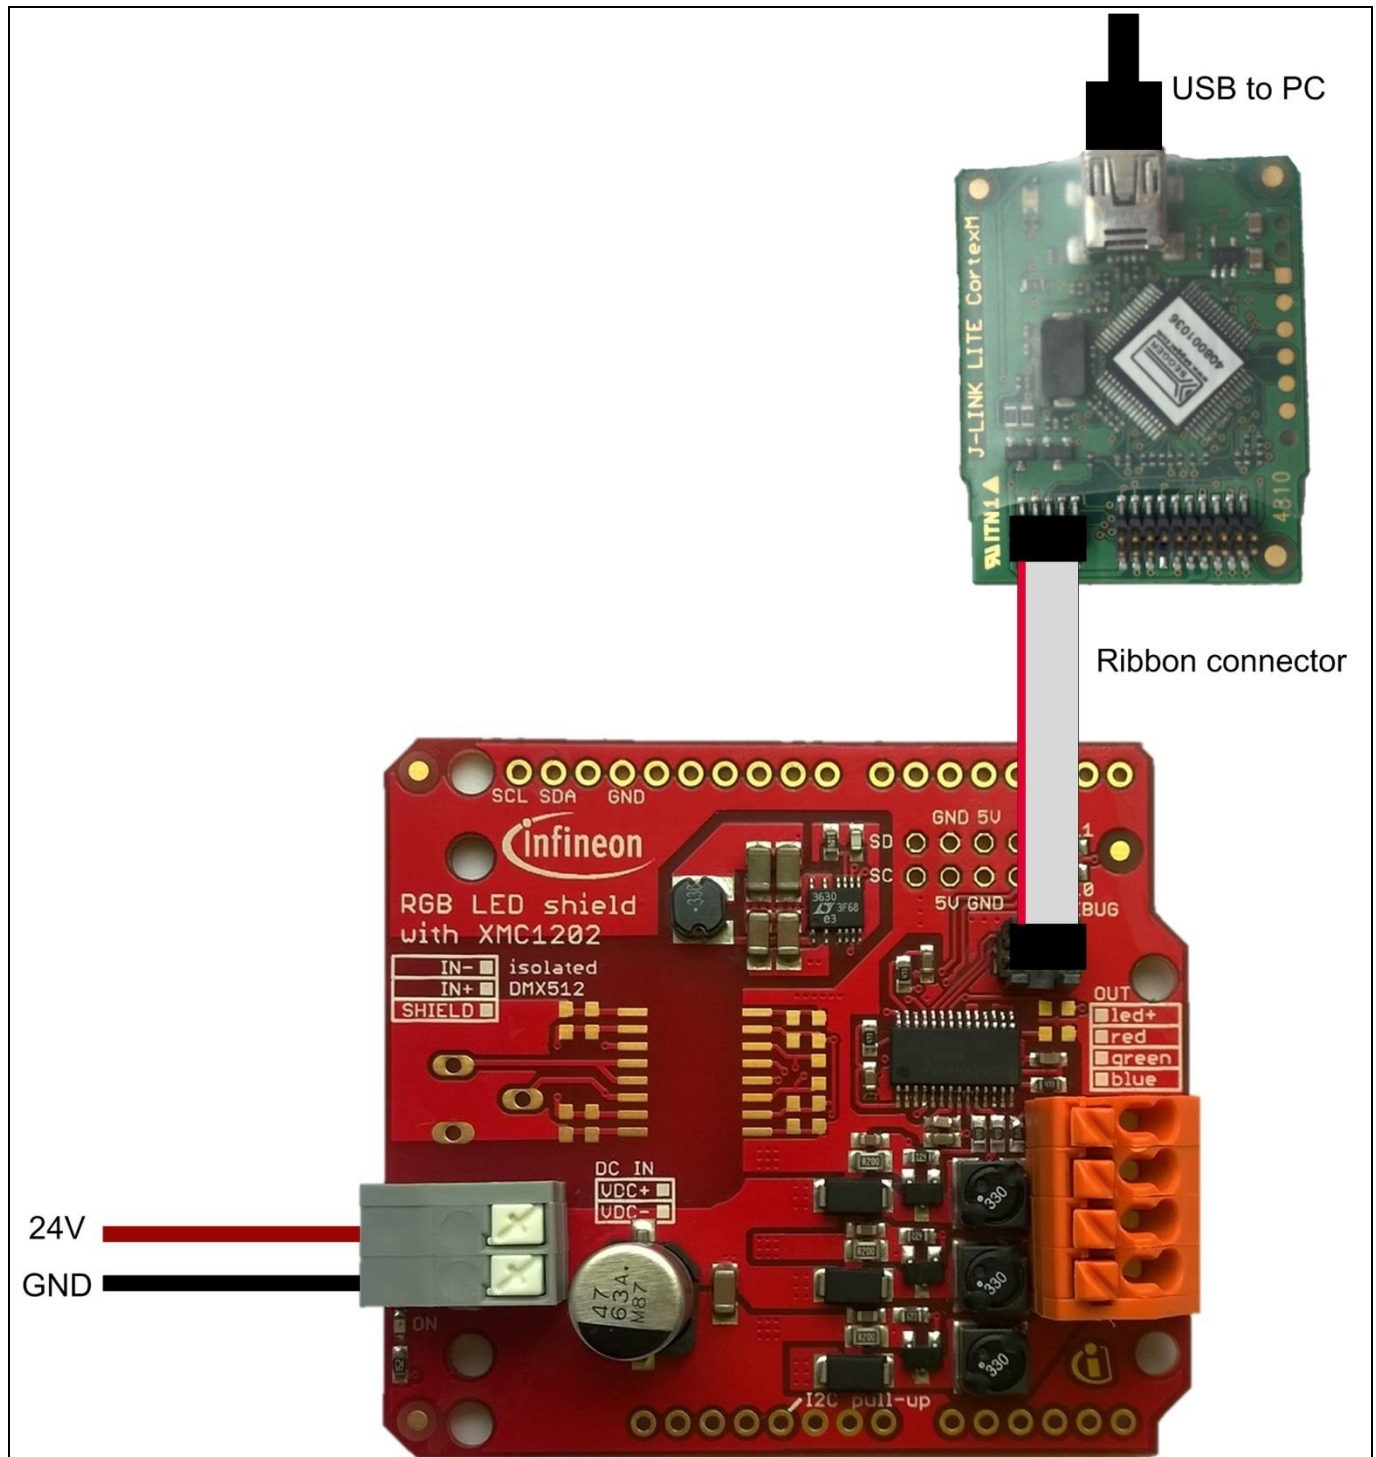

Figure 20 Segger J-Link LITE CortexM-9 connected to the RGB LED lighting shield
1. Connect the boards together. The on-board XMC1202 microcontroller can be programmed over SWD via the debug interfaces using either a Segger J-Link LITE CortexM-9 or similar (Figure 20) or an XMC™ link debugger which will be available in September 2015.